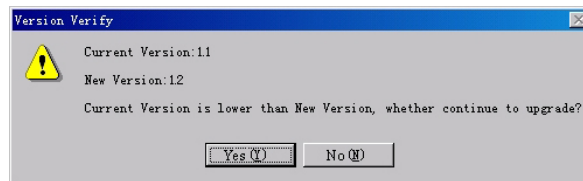

Figure 7-12
- If the version of Upgrade File is lower or the same as that loaded on the DPM1, corresponding different message will be displayed in Figure 7-12. Click “Yes” to continue to upgrade, and “Cancel” to cancel upgrading.